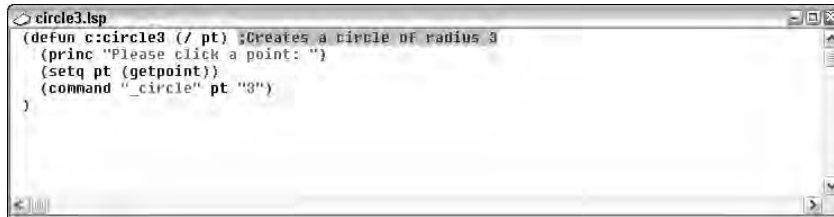

Figure 34-5: The `circle3` AutoLISP routine
To examine the contents of the `circle3.lsp` file, open it in the Visual LISP editor. Figure 34-5 shows the `circle3` routine. At this point, ignore the color formatting, which is discussed later in this chapter.
- ♦ AutoLISP is interpreted from the innermost parenthetical elements first. On line three of the code shown in Figure 34-5, for instance, `(getpoint)` is done first, and then the result is used for the `(setq pt (getpoint))` expression. This is analogous to mathematics, as in the expression $(3 + (5 \times 4))$, where 5×4 is computed first and the result is added to 3.
The following explains the routine in Figure 34-5 line by line:
- ♦  **Comment Block:** In Figure 34-5, you see an example of a comment. Visual LISP supports several comment styles, which Chapter 35 covers. Visual LISP simplifies the addition of a 3-semicolon comment. To place a 3-semicolon comment, highlight the text you wish to change into a comment and click Comment Block on the Tools toolbar. See Chapter 35 for more information on creating comments.